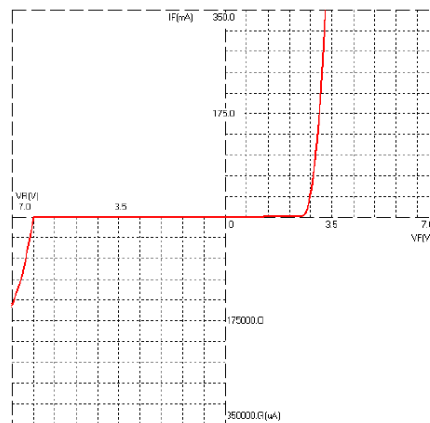

Figure 14. C35 LED I-V curve
2. Check the polarity of the emitter. Reverse voltage and current may damage the Zener diode. Figure 14 shows the C35 I-V curve in forward and reverse operation.